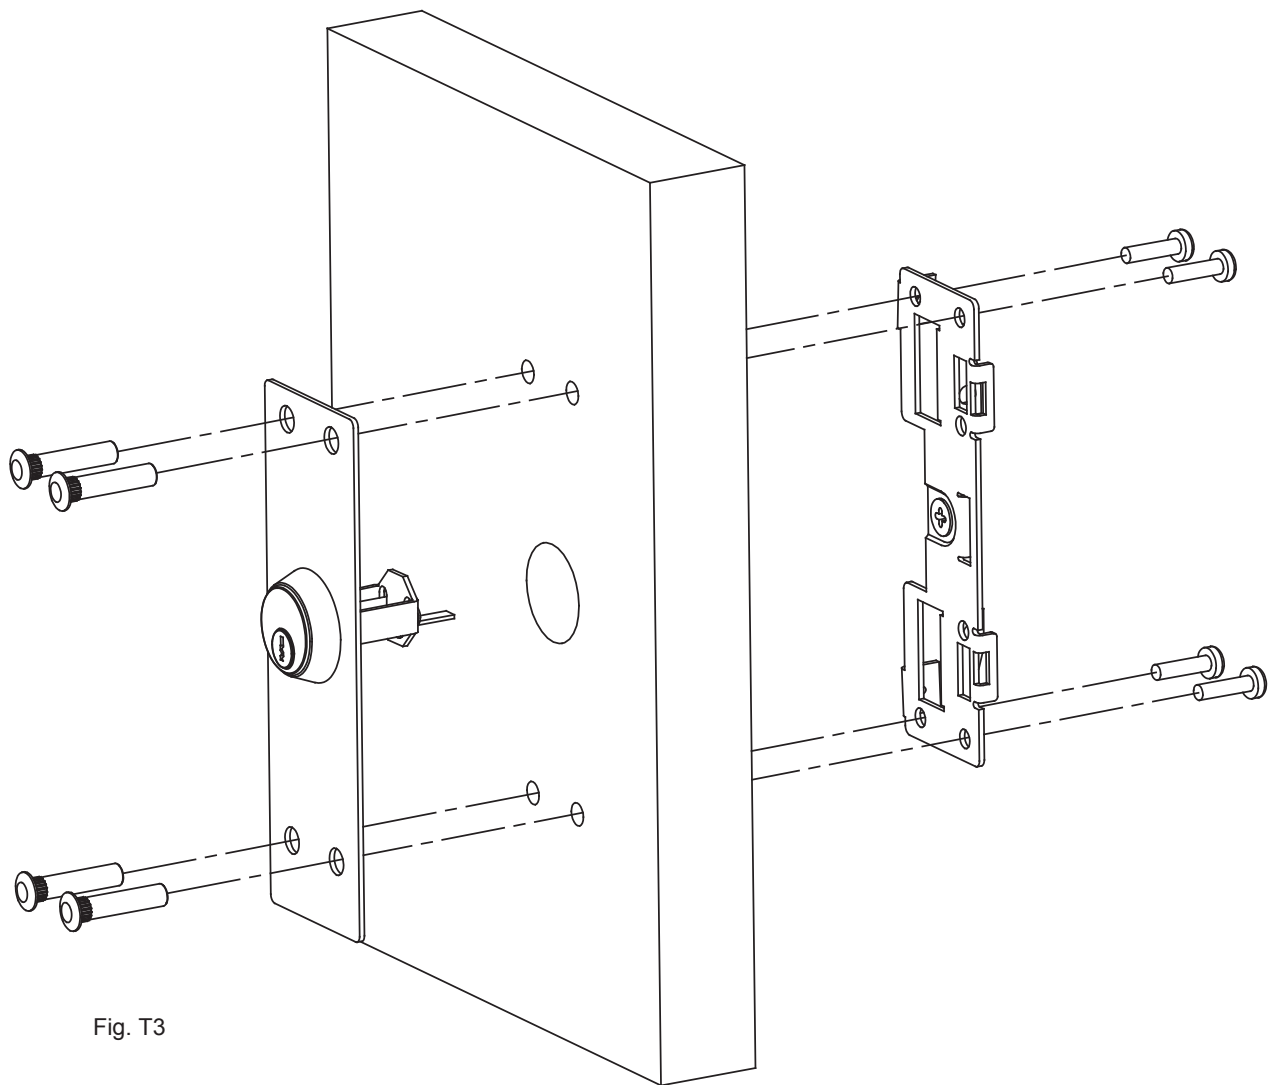

Fig. T3
4. Align the four sex nuts and trim assembly through the drilled holes (Fig. T3).